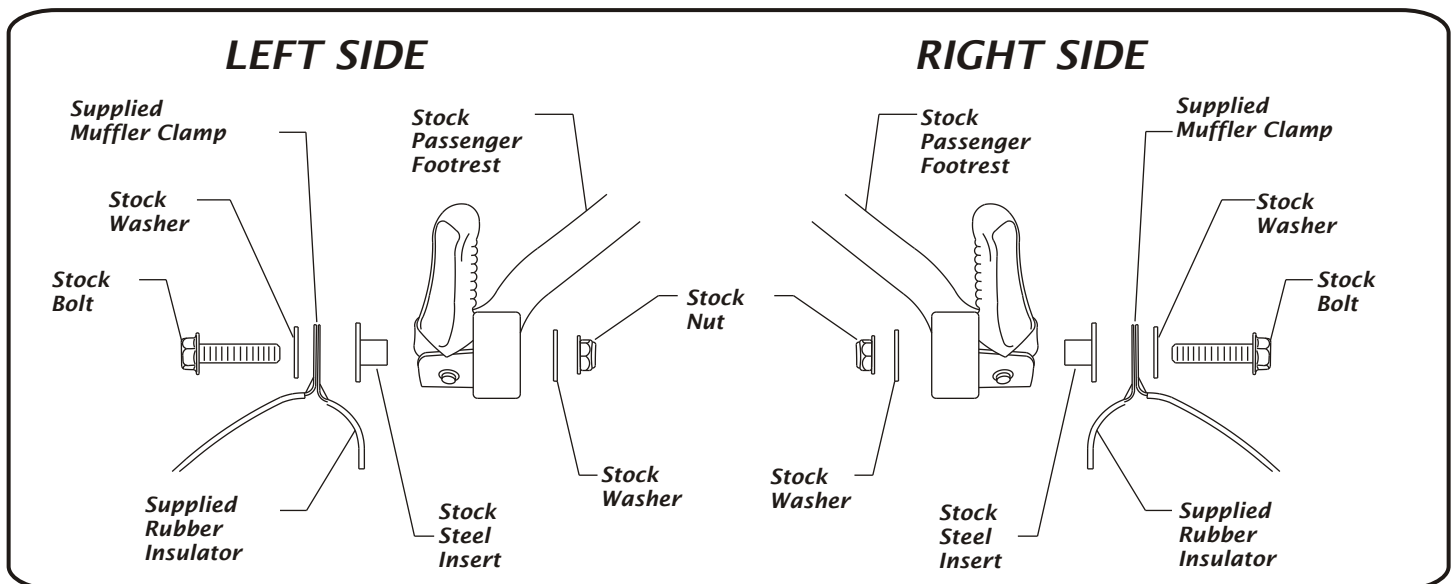

Fig. 1
**NOTE:** The muffler clamps are offset. The ears on the clamps should be offset toward the passenger footrests when sliding them over the left and right mufflers. See Fig. 1 for muffler clamp orientation.
5 Bolt mufflers to the stock muffler mount locations using stock muffler mount hardware (see Fig. 1).